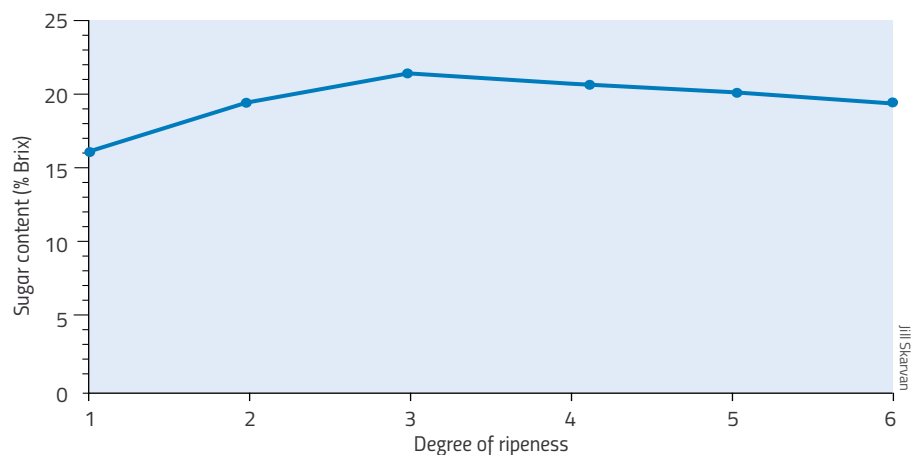

Figure 1: Mean sugar content in bananas of varying degrees of ripeness (1–6)
- Repeat these steps for at least three different bananas of the same ripeness and then calculate the mean sugar content (see table 1 and figure 1).